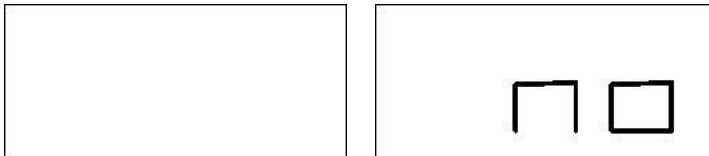
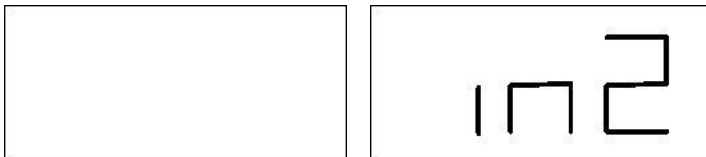

Fig. F6.2 Hidden Weight Programme not possible or chosen position not allowed
Fig. F6.4 Input of the weight W2 position
6. If the angle is greater than 120°, the machine will display the message shown in figure F6.2 for one second and will emit a triple beep indicating that another point must be chosen. If the angle instead is less than 120°, the machine will display the message shown in Fig. F6.4, allowing you to continue with the next step.
8. If the chosen angle is greater than 120°, the machine will display Fig. F6.2 for one second and will emit a triple beep meaning to repeat the procedure in step 7 again. If the angle instead is less than 120°, the machine will immediately display the value of the external weight W2.